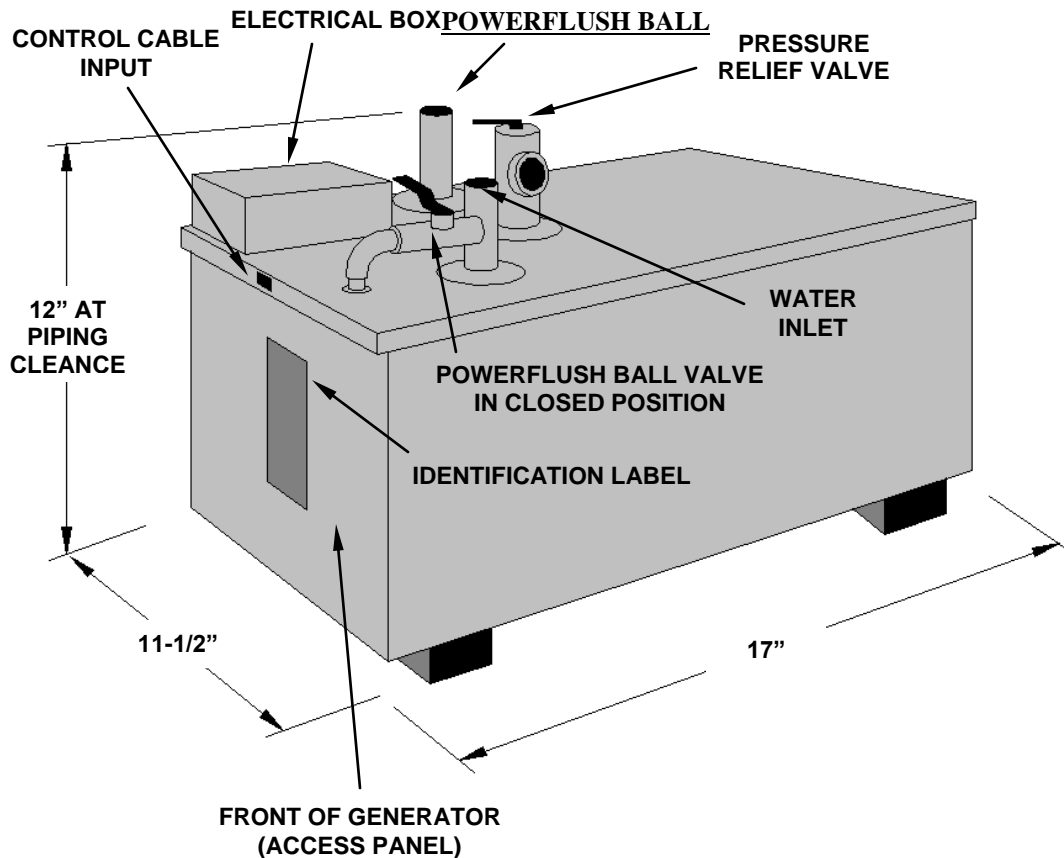

Figure 1
5. The generator must be upright, accessible and on a level surface with all connections on top. Access panel and powerflush valve must be unobstructed and allow for easy access (see Figure 1).